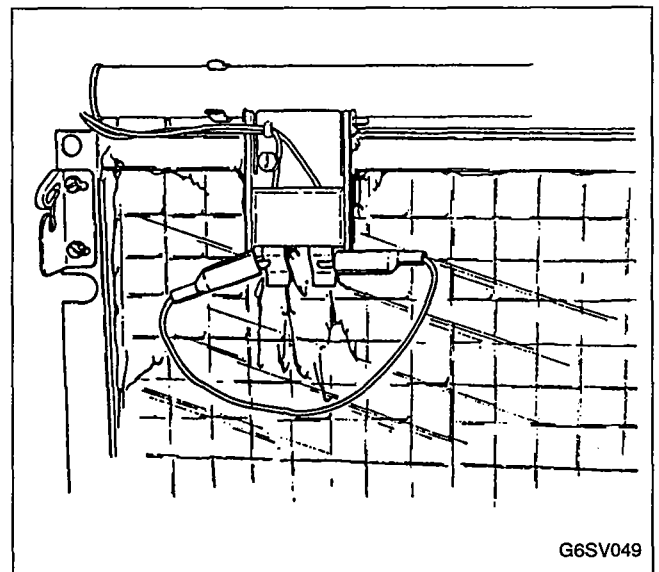

FIGURE 51. JUMPER WIRE CONNECTED TO PROBES
Step 2: Clip the leads of the jumper wire to the ice thickness control probe, Figure 51.